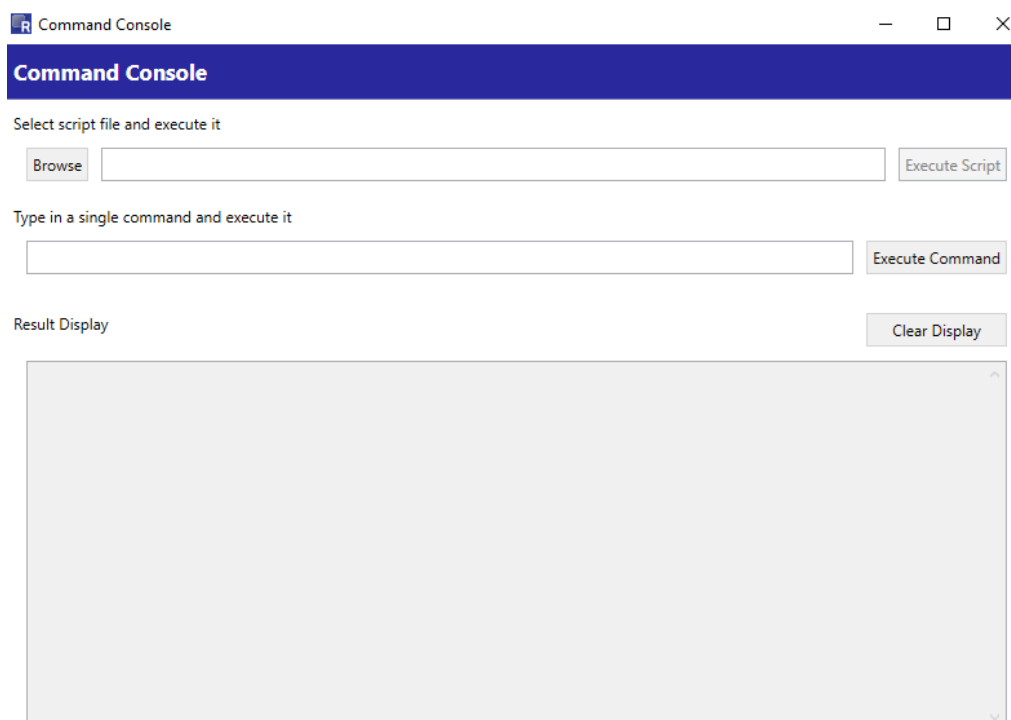

Figure 15. Tools Menu – Command Console
- Command Console: the command console can be launched in here (see Figure 15), for detailed description of the available options see section 11.